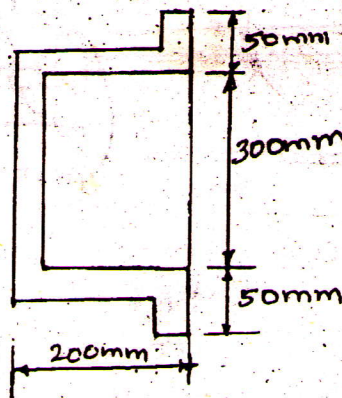

Fig. 4
4. (a) Locate the shear center for the hat section beam shown in Fig. 4. Assume a uniform thickness of 12 mm. throughout.